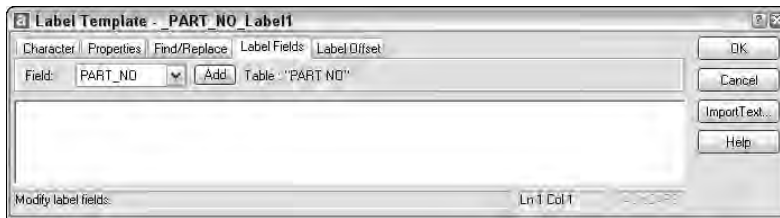

Figure 20-16: Use the Label Template dialog box to format and define label templates.
4. AutoCAD opens the Label Template dialog box, shown in Figure 20-16, with the Label Fields tab displayed. Use the Character and Properties tabs to format the text. (Note that this dialog box looks like the pre-2004 Multiline Text Editor.)